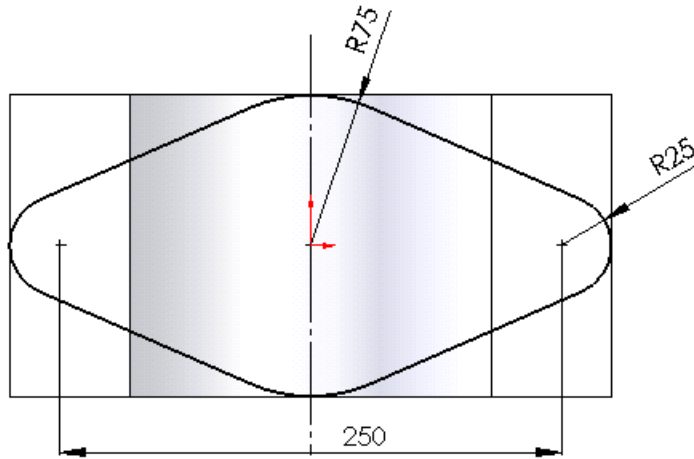

Figure 5-93 Sketch for the cut feature
- Extrude the sketch created on the top plane to create a cut feature, refer to Figures 5-93 and 5-94.
2. Create the sketch for the cut feature using the standard sketching tools and then apply the required relations and dimensions to the sketch as shown in Figure 5-93.